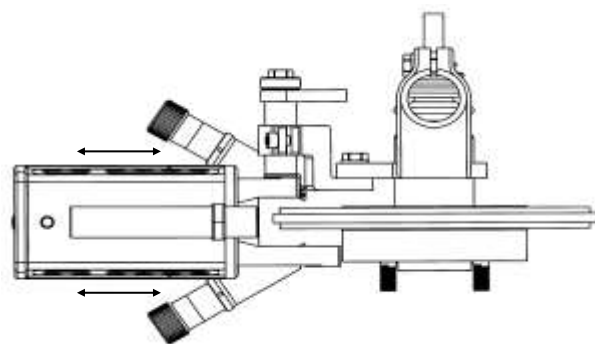

Fig. 64
6. Move the slides carefully to the hub of the brake disc, fig. 64.